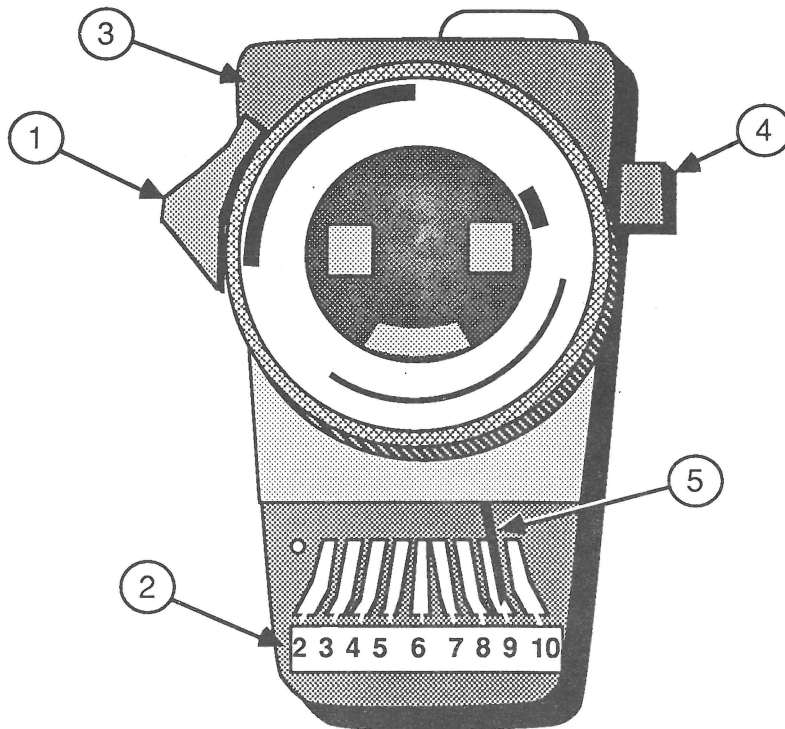

FIGURE 15
- b) Move the side switch (Figure 15, #1) down so that the lower scale (Figure 15, #2) reads 2 through 10.
- c) Uncover the lens of the meter (Figure 15, #3). Place the lens against the screen exactly at screen center and press the "read" button (Figure 15, #4). The reading should fall at the high end of "9" (21 ft.-lamberts) (Figure 15, #5).